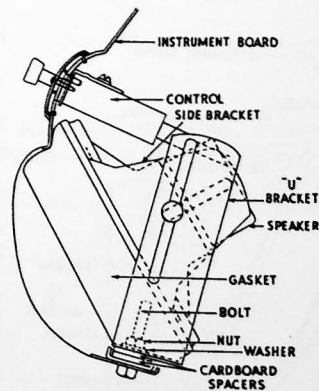

Figure 7
4. Fasten the two "L" brackets to the flange of the instrument board with the nuts, bolts, and washers, using two cardboard spacers under each bolt. Make sure that the long slot in the side of the "L" brackets are toward the grille and that the side brackets on the speaker are assembled inside the "L" brackets so that the proper angle of the speaker can be obtained. (See figure 7).
6. Loosely assemble the side brackets on the speaker to the "L" brackets and force the speaker forward and in position as shown in Figure 7. Then tighten the nuts.